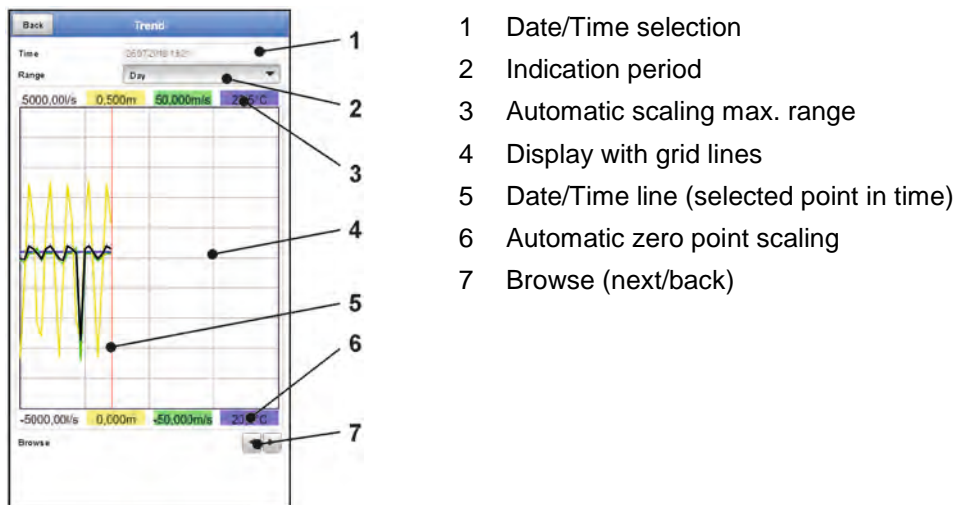
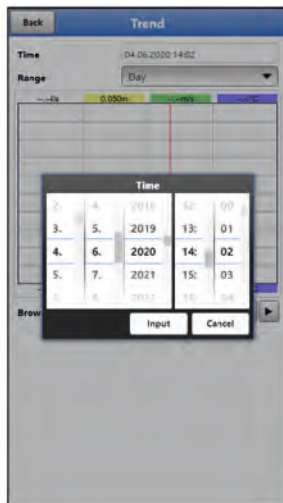

Fig. 39-2 Trend graph details
Fig. 39-3 Selecting Time/Date
1. Select the desired range (indication period; Fig. 39-2 no. 2).
2. Use the arrows (Fig. 39-2 no. 7) to browse next or back if required leaving the basic display settings unaltered.
(Fig. 39-2 no. 1). Here the selection mask below opens up (Fig. 39-3). The readings are indicated (depending on the period set) in the subsequent screen once a start date is selected.